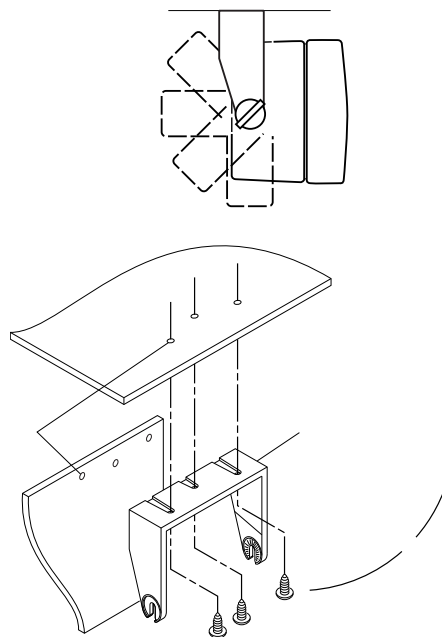

Figure 37 Mounting the Speaker under the Dashboard
5. Mount the trunnion bracket with the screws supplied (see Figure 37).